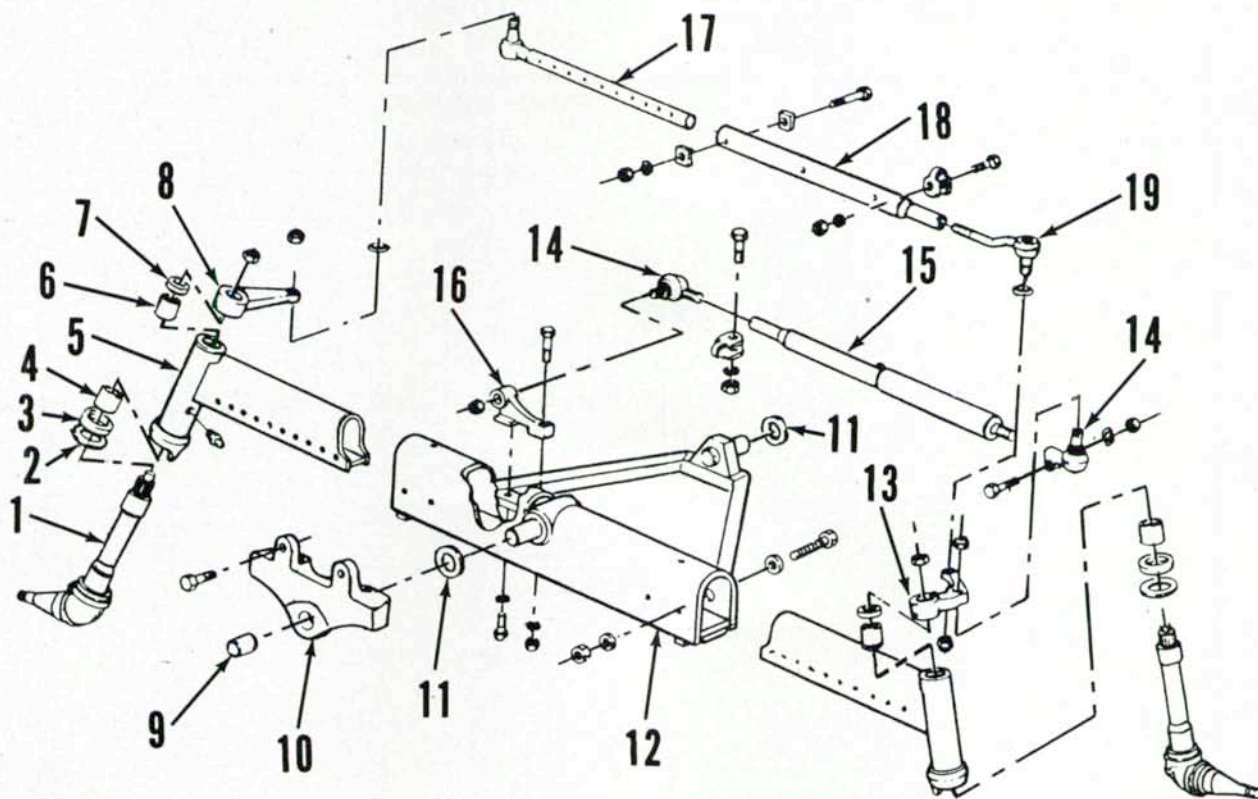

Fig. 1—Exploded view of adjustable front axle assembly. The center member (12) may be reversed to provide a shorter wheelbase on some models.
An adjustable tread width front axle (Fig. 1) is standard on all models. On some tractors, the center member (12) is reversed to provide a shorter wheelbase.
**1. R&R FRONT AXLE ASSEMBLY.** To remove front axle, first remove front weights (all models) and carrier (TW-5 and TW-15). Raise front of tractor and support with safety stands. Remove front wheels. Disconnect hydraulic hoses from steering cylinder and plug all openings. Support axle assembly, then remove front pivot support bracket (10—Fig. 1). Withdraw axle assembly from front support housing.
**2. FRONT WHEEL SPINDLE.** To remove spindle (1—Fig. 1), raise and support front of tractor. Remove wheel and tire. Remove nut retaining steering arm (8 or 13) to spindle. Note that threads of spindle are staked at the nut to prevent the nut from loosening and it may be difficult to remove. Remove steering arm and withdraw spindle from axle.
Clean all parts and inspect for wear or damage. To renew spindle bushings (4 and 6—Fig. 1), drive old bushings out of axle extension and install new bushings using a suitable piloted bushing driver. Bushings
To adjust toe-in, remove clamp bolt from right end of tie rod and loosen clamp bolt on left end of tie rod. Rotate tie rod tube (18—Fig. 1) to obtain desired toe-in. Tighten left-hand clamp bolt to a torque of 70 ft.-lbs. (95 N·m) and right-hand bolt to 36 ft.-lbs. (49 N·m).